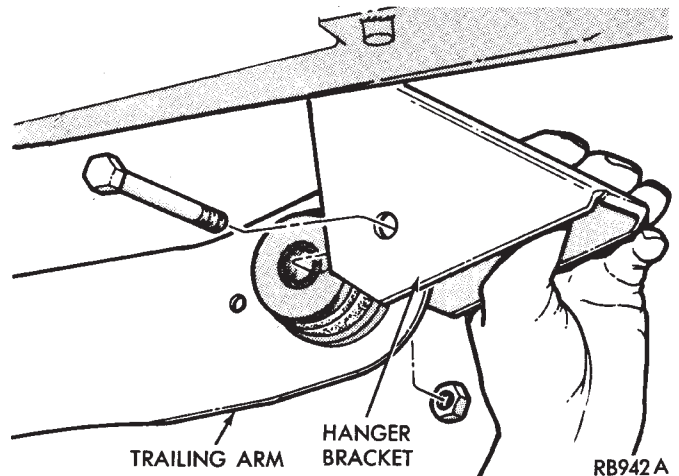

Fig. 7 Install Hanger Bracket to Pivot Bushing
(3) Position hanger bracket on pivot bushing, and install through bolt, loose assemble nut (Fig. 7). Right side trailing arm shown.